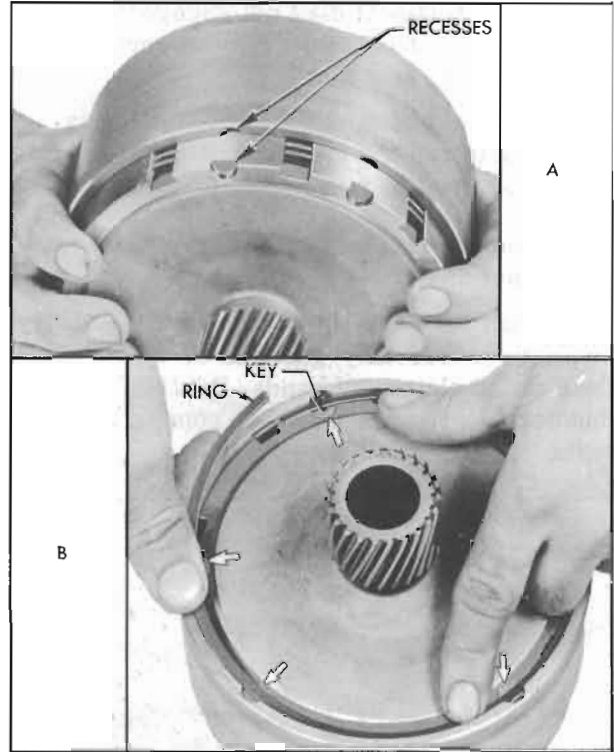

Figure 5-86—Installing Drum Over the Reaction Flange Gear
6. Place the drum and clutch piston assembly over the reaction gear flange so that the driving key recesses in drum and flange are approximately aligned. See Figure 5-86, view A. Press the drum evenly into place over the reaction gear flange.
7. Complete the alignment of driving key recesses by tapping the reaction gear flange, then install the 6 driving keys and the reaction gear flange retainer ring. See Figure 5-86, view B.